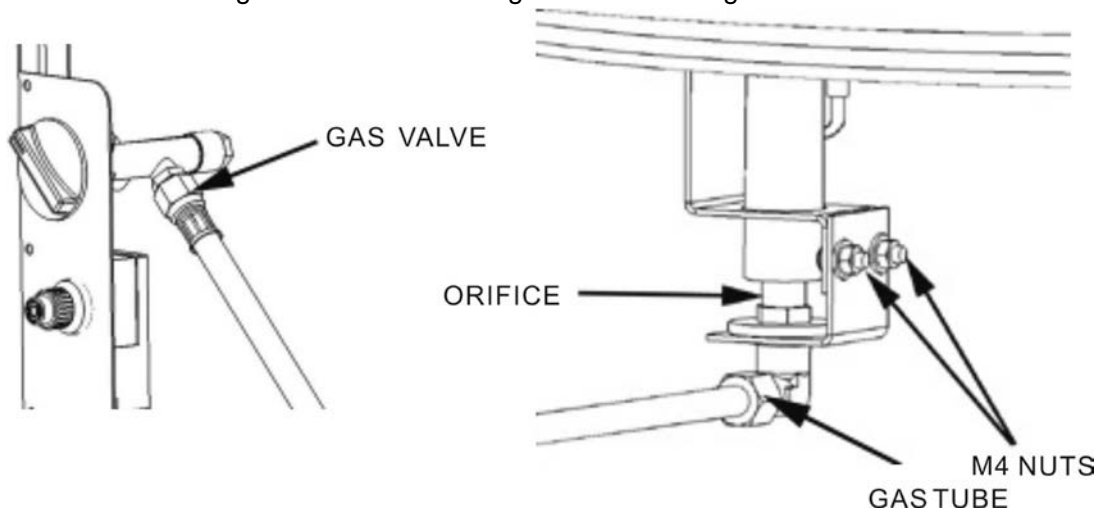

Figure 10
1. Disconnect the regulator hose from the gas valve. See Figure 10.